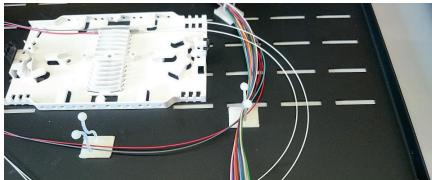

Imagen 6 / figure 6
*For better cable management, make sure to pass the connector below the input fibers. This way, if you ever need to replace a pigtail or connector, this task will be easier (figures 6,7 and 8).*